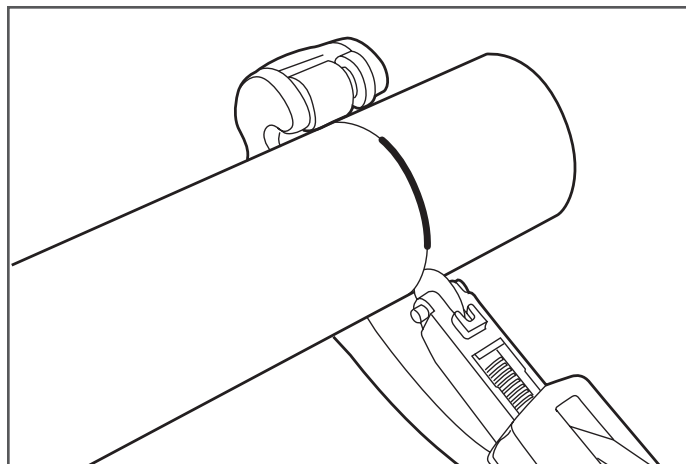

Figure 7-2
3. Using the tubing cutter, score the outer jacket approximately three quarters of the way through the jacket circumference. Use extreme caution not to cut or score the stainless corrugated pipe (Figure 7-2).